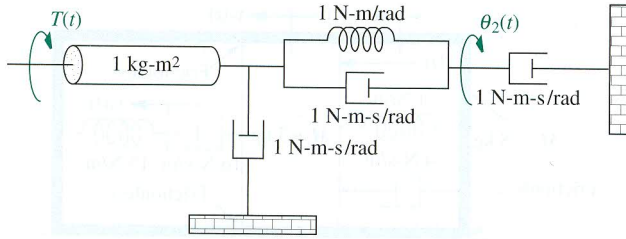

FIGURE P2.17
31. For the rotational mechanical system shown in Figure P2.17, find the transfer function  $G(s) = \theta_2(s)/T(s)$  [Section: 2.6]